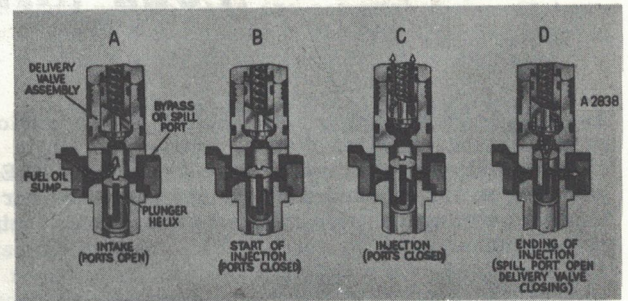

FIGURE 2-3 - Pumping Action
2.1-1 THE PLUNGER ACTION (Figure 2-3) - With the plunger at the bottom of its stroke (cam at base circle) as illustrated in "A", fuel from the pump sump flows through the barrel ports and fills the volume above the plunger. The sump fuel initially fills the vertical slots and connecting cutaway areas of the plunger.